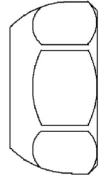
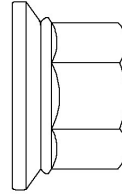

Figure 3: Spherical Lug Nut
Figure 4: Flanged Lug Nut
- Determine what type of wheels/rims you need to order. Ball-seat wheels are stud piloted and use Spherical lug nuts, see Figure 3 below. Hub-piloted wheels use flanged lug nuts, see Figure 4 below. And demountable rims are clamped to the spoked wheels. Refer to the “PART INFORMATION” section and order the required replacement wheels or rims.